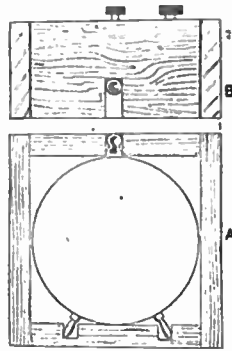

Fig. 1
readers will possess enough ingenuity to adapt them to any clock in their possession. First, make a case of $\frac{1}{16}$ in. thick wood, any kind, to completely enclose the clock, as at Fig. 1, (A) being a front view, and (B) a plan. This case should be a good fit, and should be well nailed or screwed together.